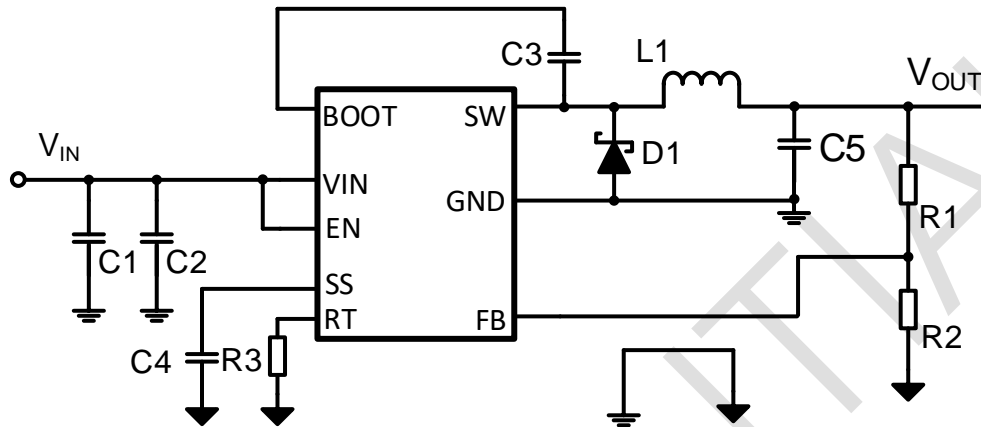
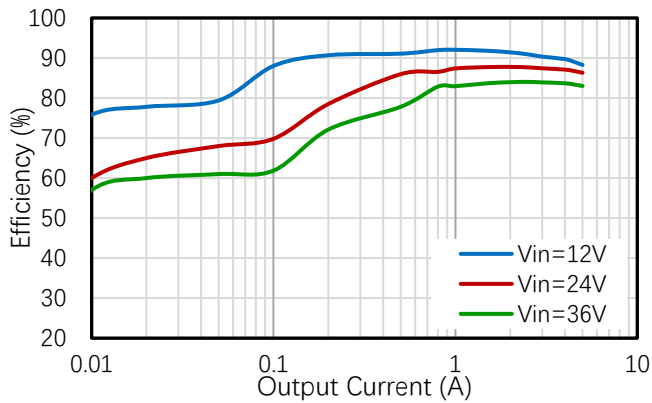

Figure 13. 24V INPUT, 5V 5A OUTPUT
Figure 14. Power Efficiency
The GBI1450 output voltage can be easily set up using a resistor divider network R1 and R2 as shown in the typical application circuit Figure 13. Use Equation (6) to calculate the resistor divider values.
Figure 14 through Figure 29 apply to the circuit of Figure 13. $V_{IN} = 24\text{ V}$, $T_A = 25^\circ\text{C}$ unless otherwise specified.